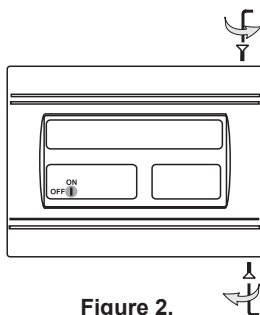

Figure 2.
- Undo the two secure bolts - Figure 2. Use crossed slot screwdriver.